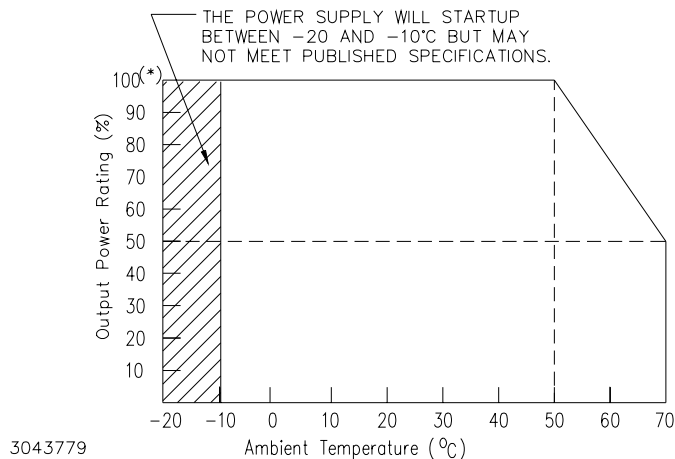

FIGURE 2. POWER RATING VS. TEMPERATURE
- (1) To adjust output voltage down to approximately 0V requires that DIP SW1, position 7 be set to ON. Refer to Table 5 for minimum conditions required to maintain proper operation of alarm relay, meter (AM Models only) and VDC ON/ALARM indicator.
- (2) Using trimpot to attain voltages outside the specified adjustment range may trigger overvoltage (PAR 3.6.1) faults. Recovery is by removing, and after approximately 40 seconds, reapplying AC input power or by reset (open and close) at ±RC terminals (no delay).
- (3) See Figure 2 for power derating.
- (4) Square type. Output voltage returns automatically when cause is removed. (see PAR. 3.6.2).
- (5) CAUTION: The unit may be damaged if operated under overcurrent or shorted conditions for more than 30 seconds.
- (6) When overvoltage is detected, output is shut OFF. Recovery is by removing, and after approximately 40 seconds, reapplying AC input power or by reset (open and close) at ±RC terminals (no delay).
- (7) Ripple and noise levels above are satisfied when conditions are 0 to 100% load, 0 to 50°C (load is derated from 50 to 70°C, see Figure 2), and bandwidth ≤ 100MHz.